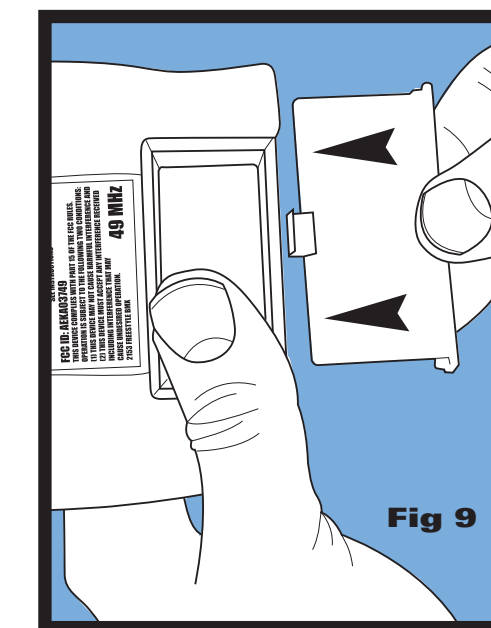

Fig 9
3. Hold battery in place with thumb and replace BATTERY DOOR. (Fig. 9)